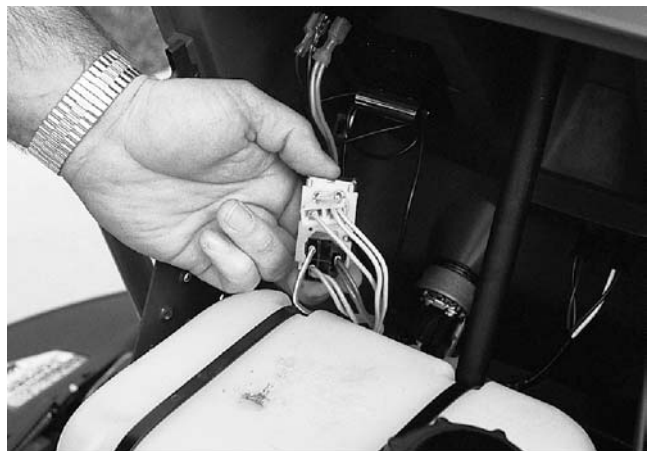

Figure 3-38.
1. Check the wiring at the PTO switch. See Figure 3-38.